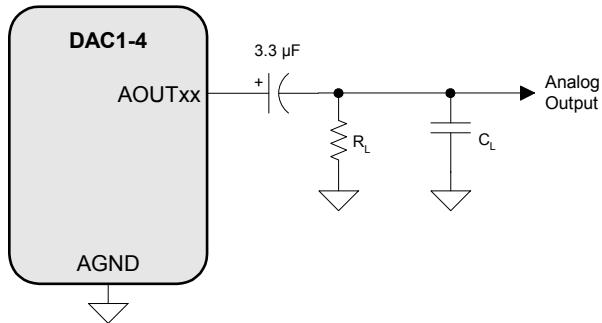

Figure 2. Output Test Circuit for Maximum Load
13. Guaranteed by design. See Figure 2. R_L and C_L reflect the recommended minimum resistance and maximum capacitance required for the internal op-amp's stability and signal integrity. In this circuit topology, C_L will effectively move the dominant pole of the two-pole amp in the output stage. Increasing this value beyond the recommended 100 pF can cause the internal op-amp to become unstable. See "External Filters" on page 52 for a recommended output filter.